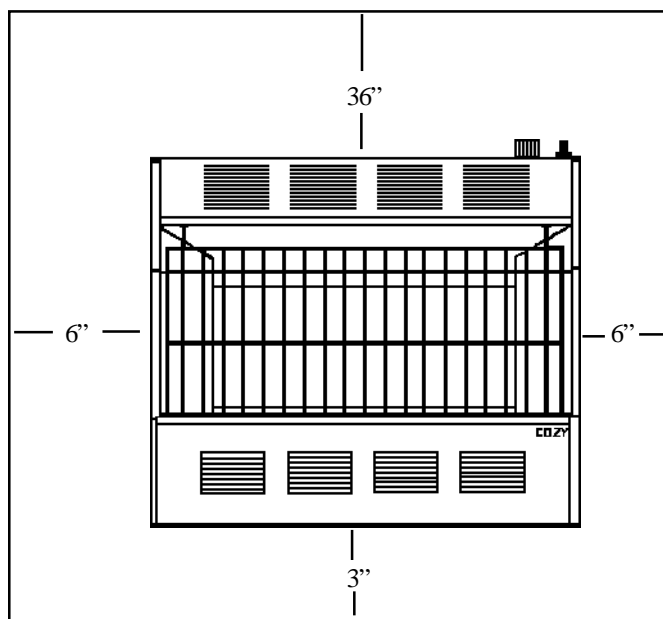

FIGURE 1
- 2) Minimum clearances as viewed from front of heater, see Fig. 1. 3" clearance below heater shall be measured from top surface of carpeting, tile, etc.